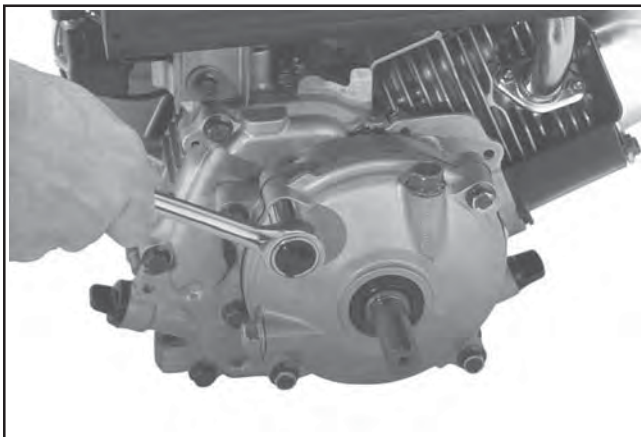

Figure 9-64. Loosening Reduction Housing Cover Screws.
2. Remove the four reduction cover mounting screws. Use a flat pan to catch oil when the screws are removed and the cover is separated. See Figure 9-64.